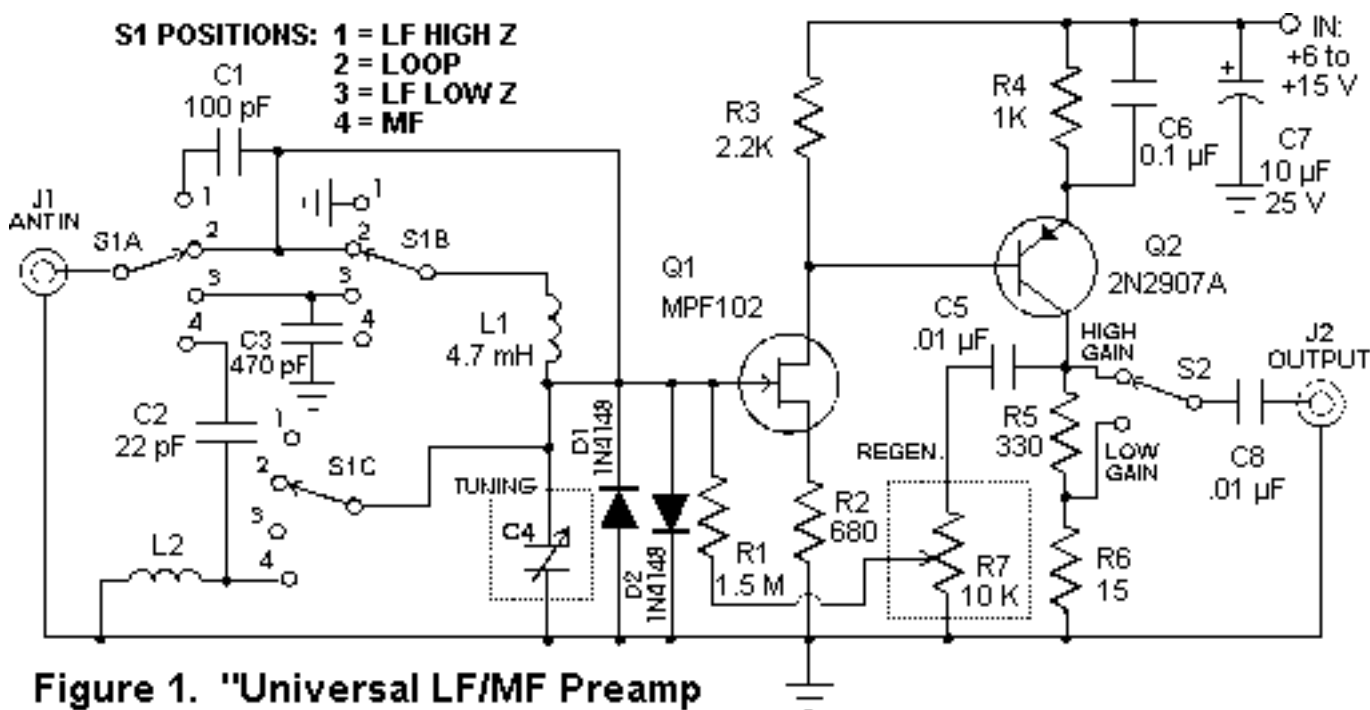
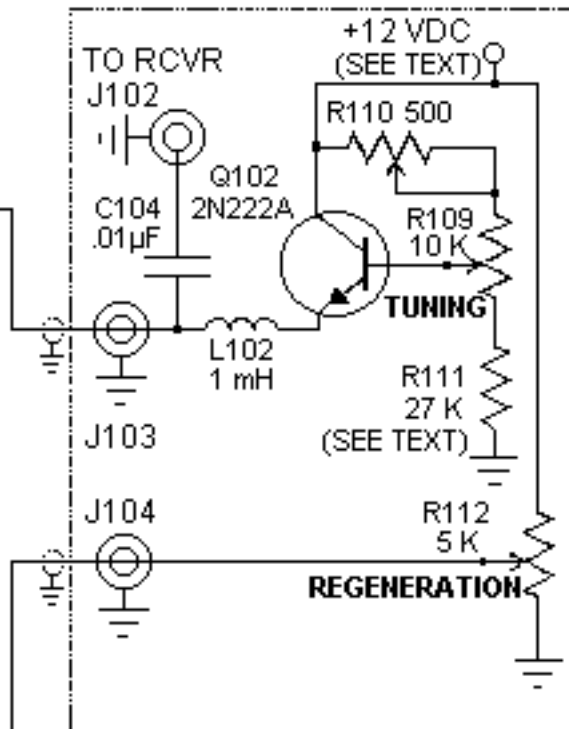

Figure 1. "Universal LF/MF Preamp"
Figure 2. Suggested circuits for remote tuning and regeneration control.
The universal preamp design is shown in Figure 1. It fits on a Radio Shack No. 276-150 general-purpose IC board with room to spare. Layout isn't especially critical; just follow the usual rules of RF circuit construction. Keep all leads as short as possible, and allow a respectable distance between the input and output leads. The preamp should be enclosed in a metal box to provide shielding. Tuning and regeneration control components are shown enclosed in dotted lines. Later in this article I'll show how these circuits can be modified to allow remote operation.
Suggested circuits for remote tuning and regeneration control are shown in Figure 2. Parts with three-digit numbers are additional components needed for remote control. Single-digit part numbers refer to components previously identified in Figure 1. Remote tuning is accomplished by using a back-to-back pair of varactor diodes in place of C4. The maximum capacity of a pair of MVAM109s in series is only about 250 pF. If desired, C4 can be left in the circuit to extend the low end of the tuning range, or another pair of varactor diodes can be connected in parallel with D101 and D102. MVAM109s are available from DC Electronics at (800) 467-7736.
If you want, you can run a multiple-conductor shielded cable between the control unit and preamp, and use separate wires for power, signal and tuning. (I've used 150 feet of ordinary audio cable in my field tests of the preamp with no significant loss of signal.) Separate wires let you use a much simpler remote tuning circuit. But that's too easy. Figure 2 shows how to make one shielded wire perform multiple tasks. Q101 functions as a DC amplifier with offset, so that the tuning voltage varies from zero to 9 volts while the voltage on J2 is varied from about 9 to 11.5 volts. RF chokes and blocking capacitors at each end of the line isolate the signal output from the DC supply/tuning voltage. With this circuit, a single coaxial line carries the power and tuning control voltage to the preamp, and brings the output signal back to the receiver.
The inductance values of L101 and L102 aren't critical, but they should each have a DC resistance less than 15 ohms. Some tweaking of the nominal 12 VDC supply voltage and/or the 27 K resistor (R111) may be needed to get the full tuning voltage range in your circuit. To check the circuit, connect a DC voltmeter between the collector of Q101 and ground. With the coarse tuning pot (R109) turned fully counter-clockwise, the voltmeter should read less than 0.5 volts. As you rotate the tuning pot, the voltmeter reading should begin to rise and should be close to 9 volts with the pot fully clockwise. Increasing the value of R111 will raise the minimum tuning voltage. Increasing the supply voltage will raise the tuning voltage at all settings of the tuning pot. The 500-ohm pot (R110) in Figure 2 is a "fine tuning" control. It can be omitted if you don't plan to use regeneration.
Thanks to Bruce, AAØYB and Sam, WØIMG for leaving their beacons on during the thunderstorm season so I could perform some actual listening tests on LowFER signals. Both of their transmitters are about 95 miles from me, which provides a reliable signal path when the QRN isn't overwhelming. Using either the circuit of Figure 1 or a preamp with the remote tuning options in Figure 2, BK and SAM came in very well on a homebrew LF receiver with any of three portable loops ranging from 30 inches to 48 inches in diameter. Signals were also readable on a Radio Shack DX-440 portable receiver with all of the loops, although the 30-inch loop is pretty marginal.